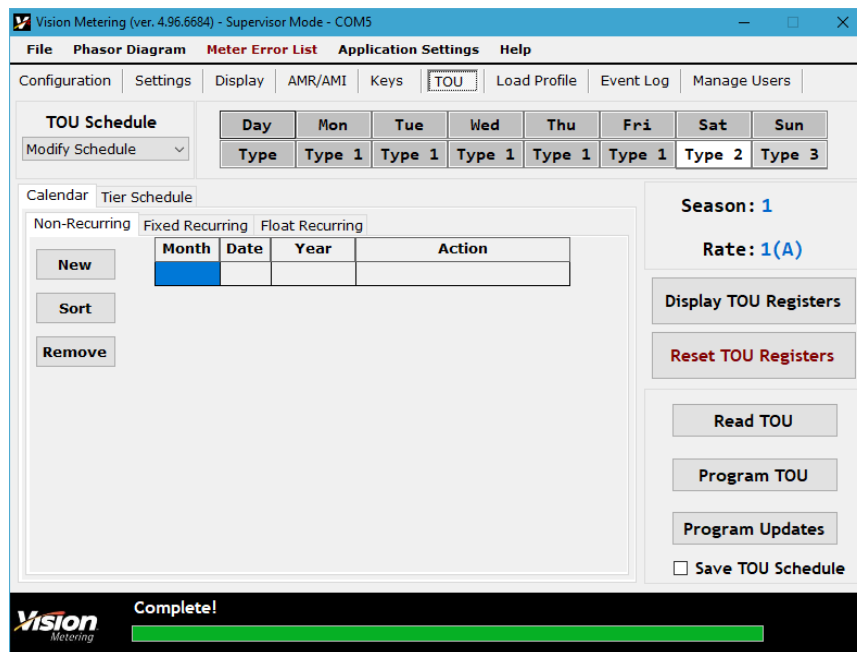

Figure 26
- Upon selection of **Open TOU Schedule**, select the TOU schedule file. By choosing **New TOU Schedule**, the screen populates with available sections to choose settings as shown in *Figure 26*.